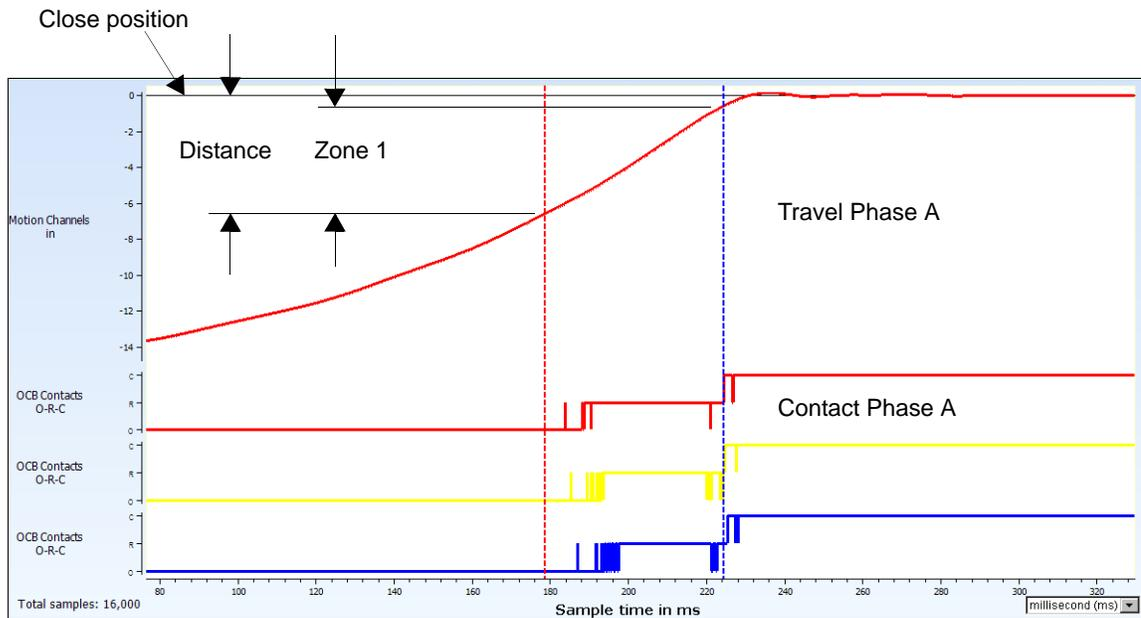

Figure 76 Average Velocity Distance to Contact Close, Motion Channel #1 (Phase A) Active
- Distance to Close—The circuit breaker average velocity is calculated for the period between the moment when the main contacts make and the distance specified before the final closed position. Figure 76 shows the average velocity for a close operation referencing distance to contact close.